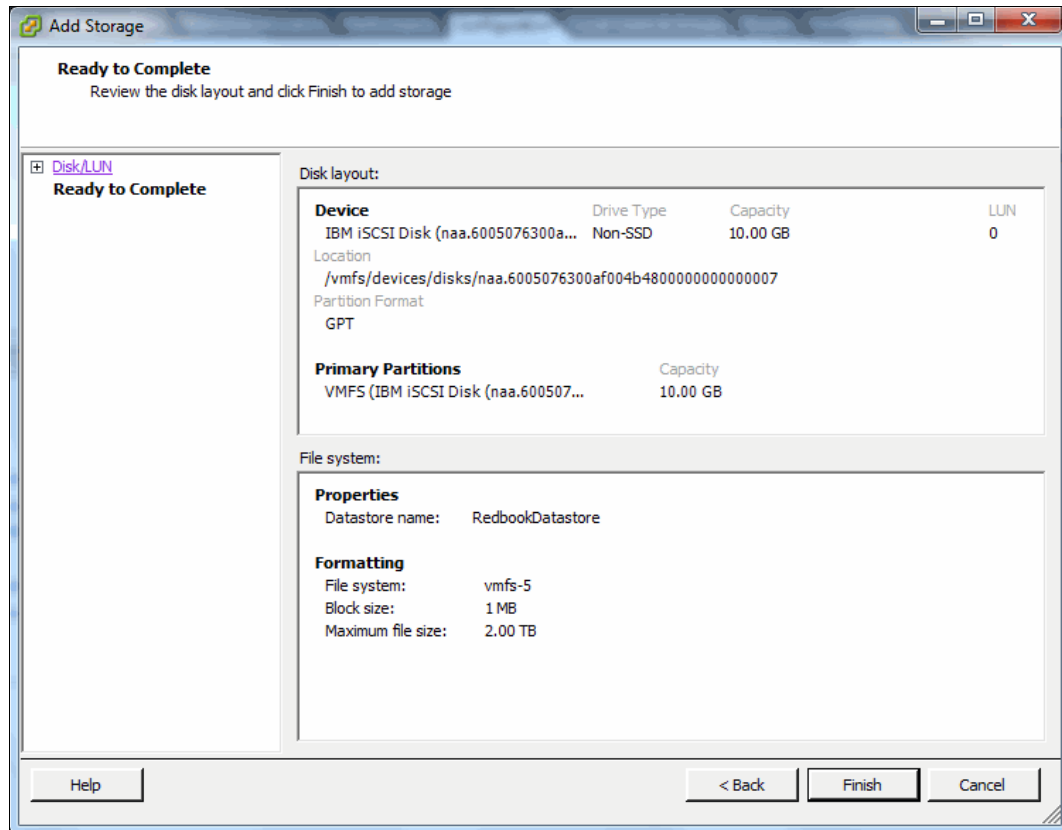

Figure 5-70 Completing the Add Storage wizard
- Review your selections and click **Finish**, as shown in Figure 5-70.